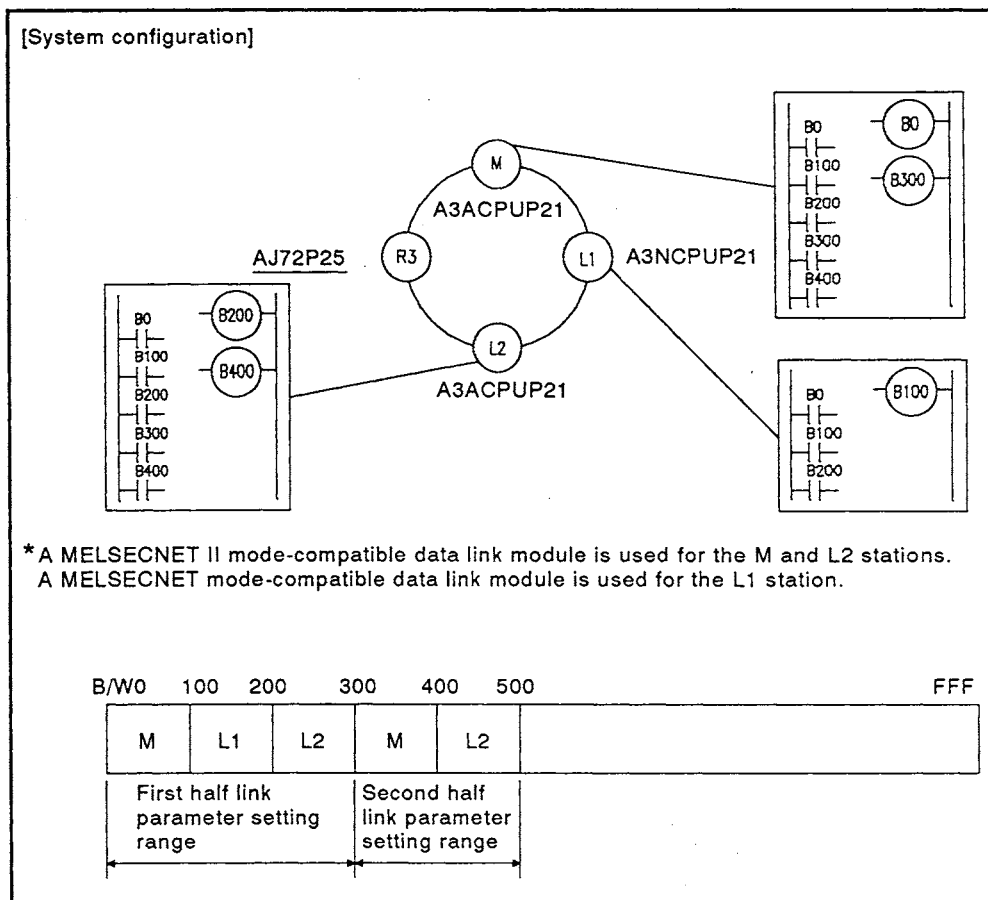

Fig 5.10 System using MELSECNET II composite mode
A MELSECNET mode-compatible local station can only read the range of link relays (B) and link registers (W) assigned to the first half link parameter. Devices assigned to the second half link parameter cannot be read. L1 station in Fig 5.10, for example, cannot read the devices in the range of B/W300 to 4FF because it is used for a MELSECNET mode-compatible data link module. MELSECNET II mode-compatible master stations and local stations can read the range assigned to both the first and second half link parameters.